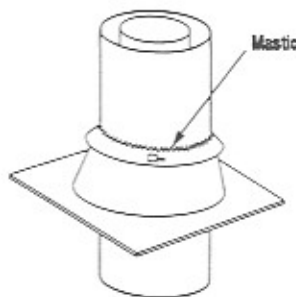

Figure 29
Step 8. The standard Superior roof flashing assemblies include a storm collar. Slide storm collar over outer chimney, align with top surface of flashing, insert tab in slot, pull tight and bend tab back over slot. Seal storm collar to outer chimney with roof caulking or mastic around entire circumference of pipe. Also add extra roof caulking where storm collar meets flashing and to the tab/slot area to seal completely against water penetration (Figure 29). Check all joints very carefully to ensure no water intrusion can take place.